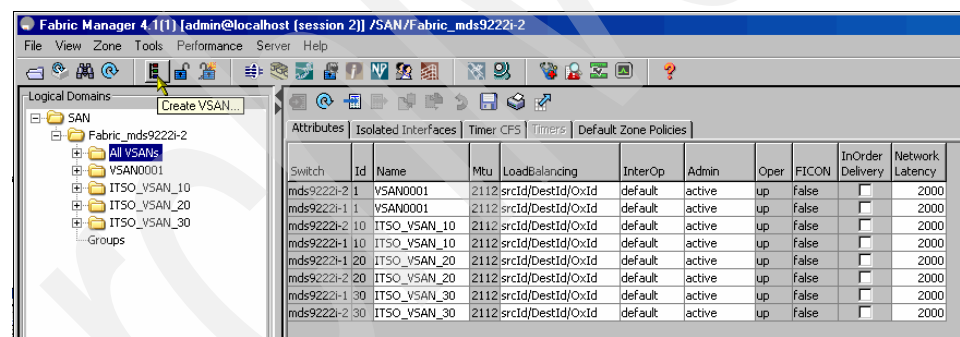

Figure 6-34 Creating a VSAN from a GUI
1. Click the create VSAN icon, as shown in Figure 6-34.